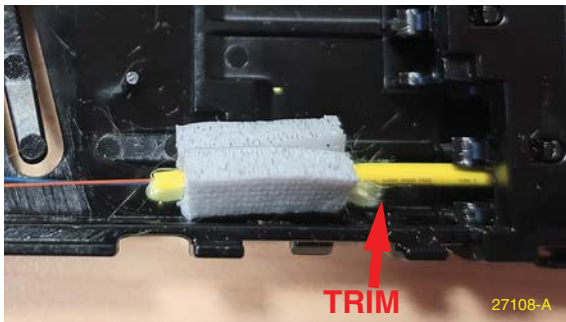

Figure 7. Strength Member Trimmed
7. Trim off the excess strength member (Figure 7).
8. While guiding the foam into the housing opening, gently pull outward (Figure 7).